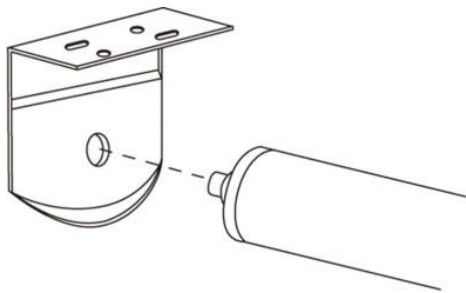

Figure 1
- i) Insert the idle mechanism into the idle bracket (part C) so it is engaged (Figure 1)